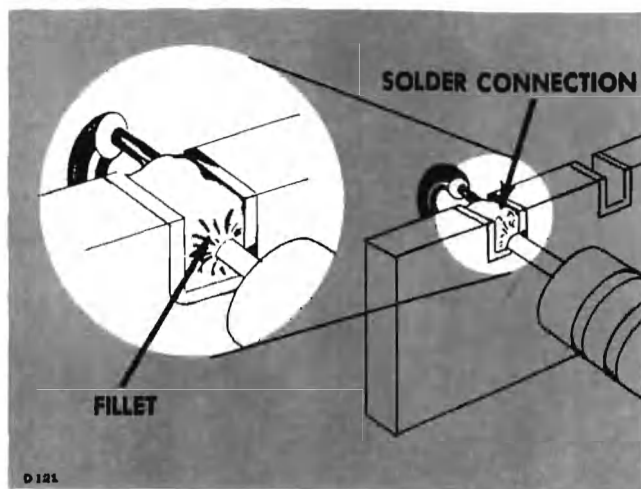
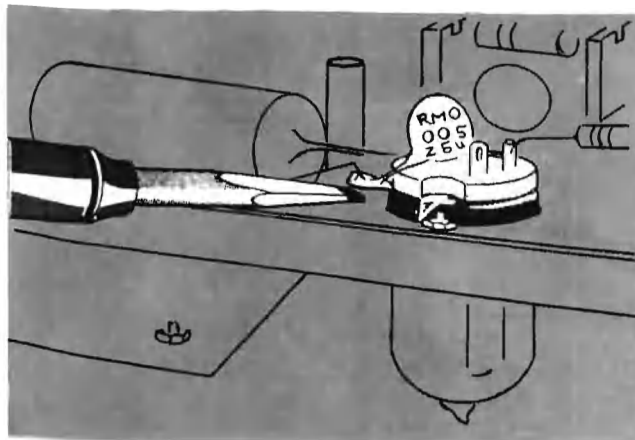

Fig. 5-3. A slight fillet of solder is formed around the wire when heat is applied correctly.
Fig. 5-4. Soldering to a terminal. Note the slight fillet of solder—exaggerated for clarity—formed around the wire.
6. Do not attempt to fill the notch on the strip with solder; instead, apply only enough solder to cover the wires adequately, and to form a slight fillet on the wire as shown in Fig. 5-3.
In soldering to metal terminals (for example, pins on a tube socket) a slightly different technique should be employed. Prepare the iron as outlined above, but tin with ordinary tin-lead solder. Apply the iron to the part to be soldered as shown in Fig. 5-4. Use only enough heat to allow the solder to flow freely along the wire so that a slight fillet will be formed as shown in Fig. 5-3.